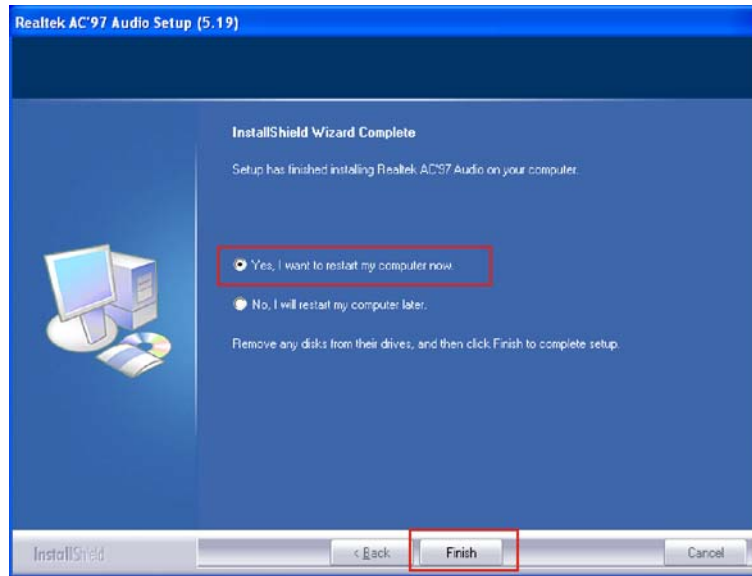

Figure 7-24: Restart the Computer
Step 9: After the driver installation process is complete, a confirmation screen appears (Figure 7-24).